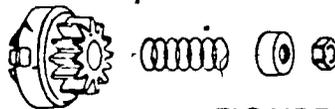

FIGURE 2
8. Disassemble drive assembly (Figure 2)
- F. Straighten spring and install spring into blower housing slot and hook into pulley (Figure 2)